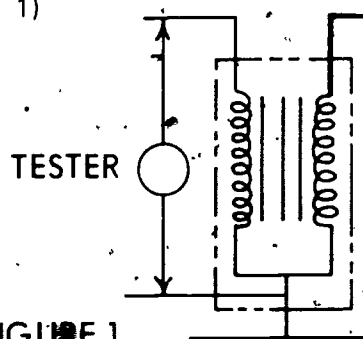

FIGURE 1
- B. Connect the ohmmeter from the disconnected coil primary lead to the coil primary ground lead (Figure 1)